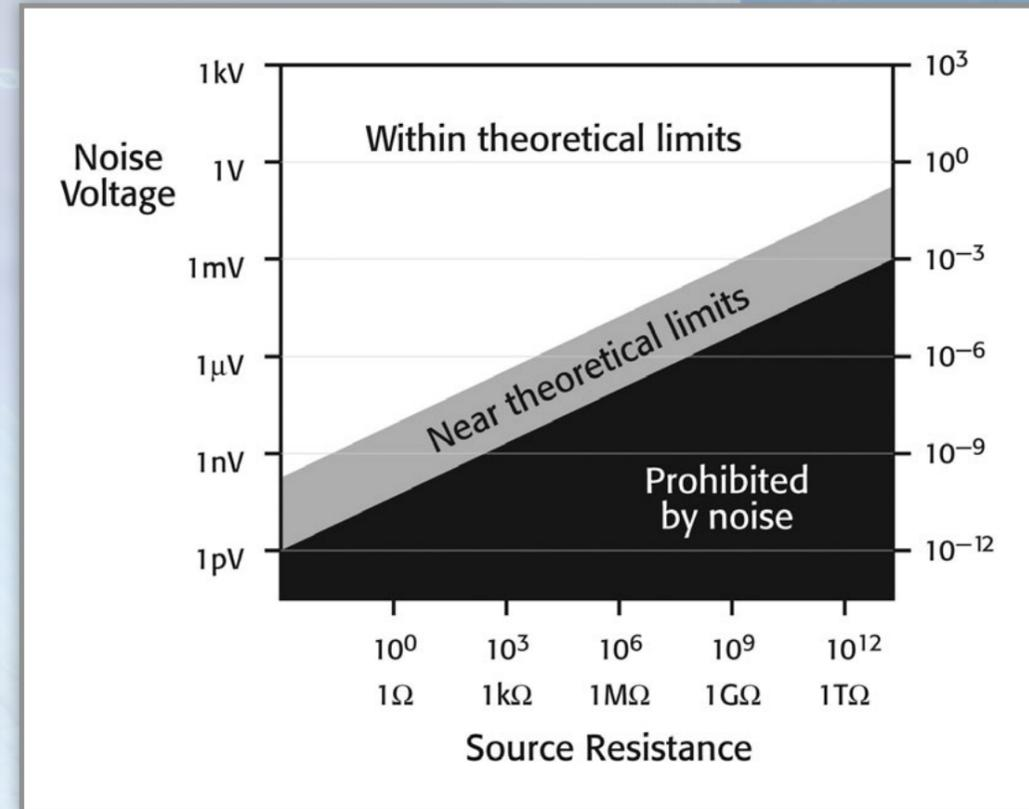

Figure 6
- Theoretical measurement limits.** The laws of physics provide a fundamental limit of how low a signal can be resolved because every system will generate some level of voltage and current noise. **Figure 6** identifies the levels of voltage that are impossible to measure, as well as the levels approaching the theoretical limits of voltage measurement.